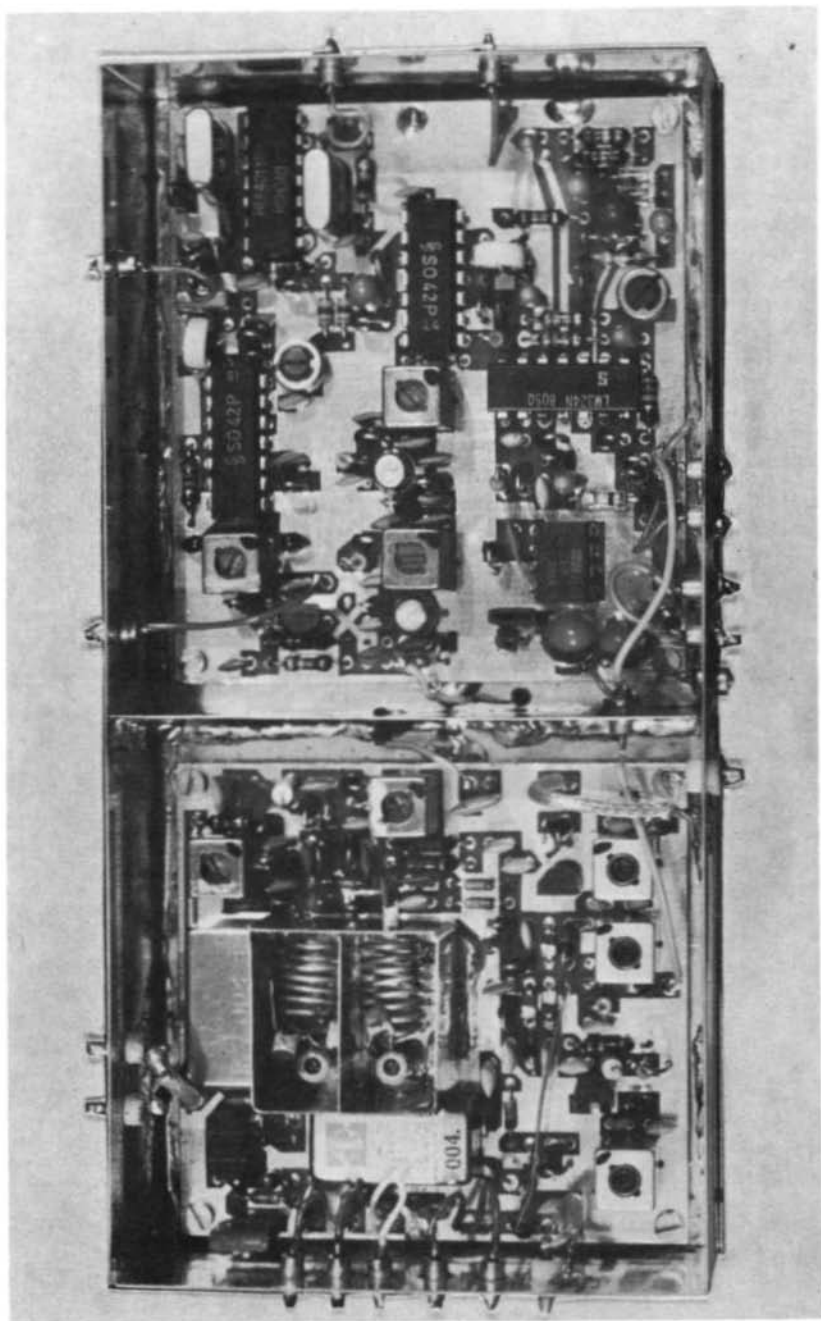

Fig. 12: Photograph of the completed SSB mini-transceiver for 145 MHz
**Figure 12** shows the photograph of the completed transceiver.